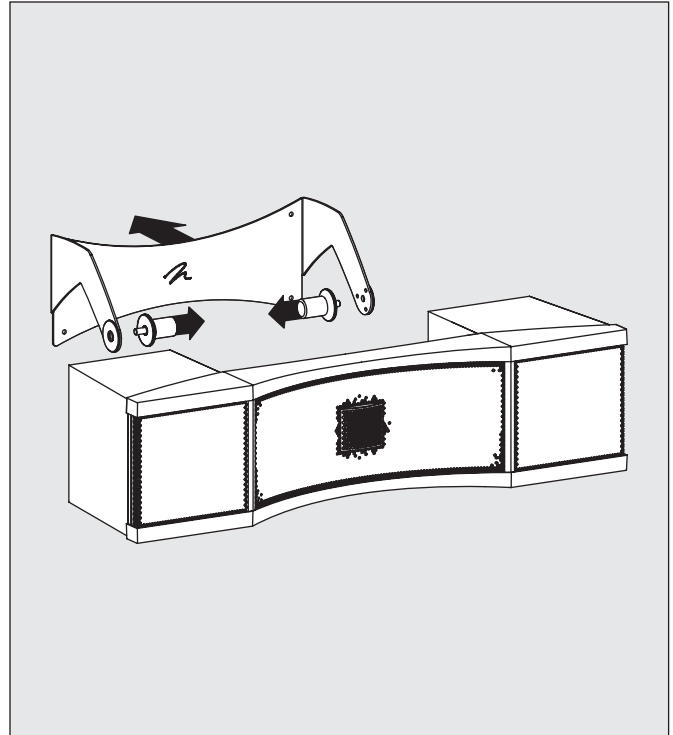

Figure 4. Remove the stand from the speaker.
- 3 Remove the stand/wall-bracket by completely unscrewing the two large knobs (figure 4).